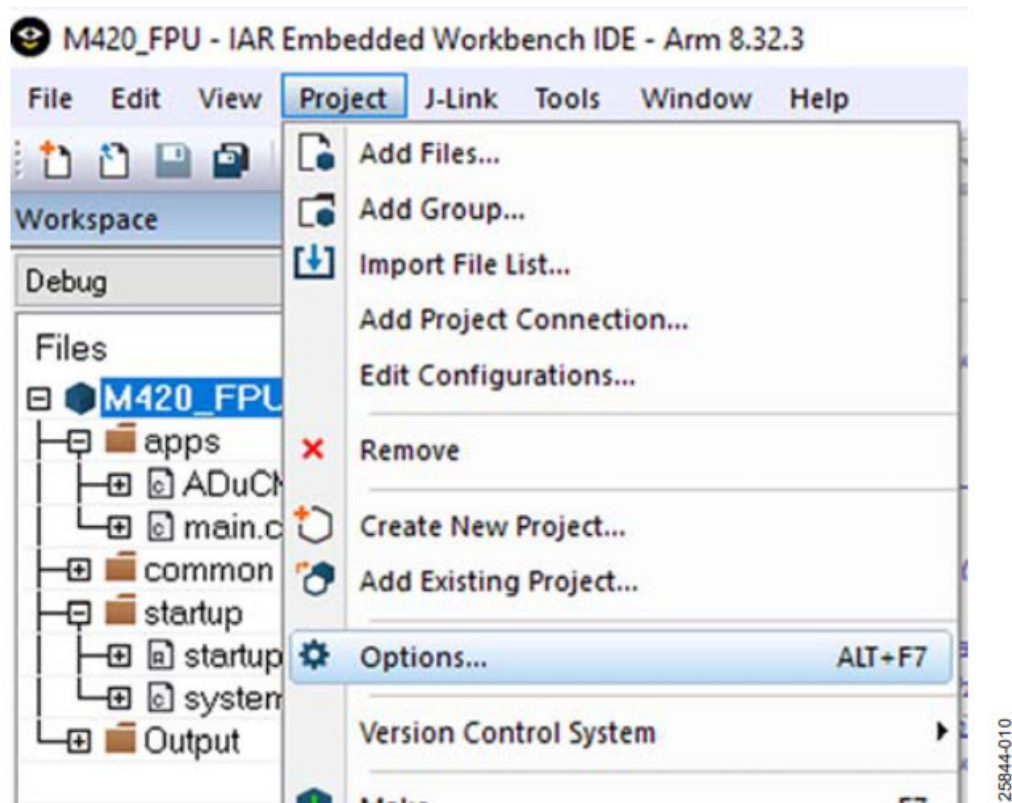

Figure 24. Selecting **Options** in the IAR IDE
The settings shown in the Project dropdown menu (see Figure 24) are available on the Keil and IAR software tool environment. By default, the floating-point unit (FPU) is disabled after the settings are disabled. Code to enable and output the floating-point value is added in the SystemInit function in the system_ADuCM420.c file. This file is located in the example program in the ADuCM420 installer folder named M420_FPU (under the Files list in Figure 24).
1. After opening the IAR IDE, click the Project dropdown menu and select Options (see Figure 24).